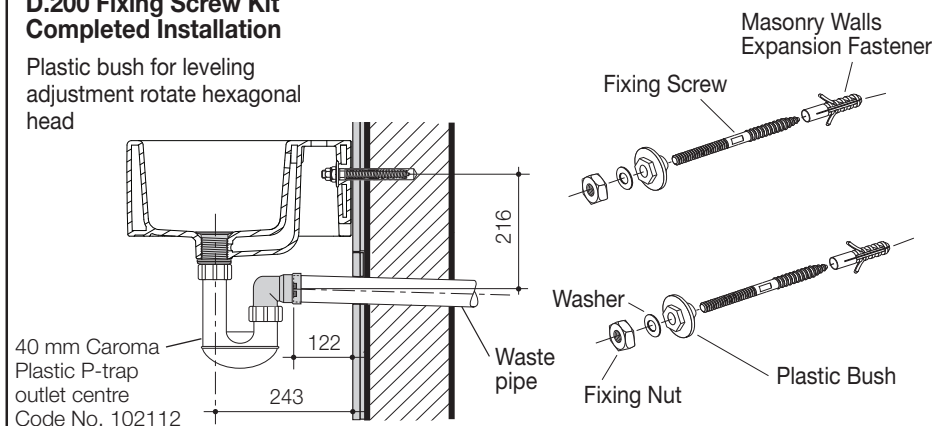

Fig. 3
- 5- Locate basin onto the Fixing Screws on the wall. Insert plastic bushes, metal washers and fasten to wall with fixing nut. To complete assembly as detailed in **Figure 3**.
- 6- The Plastic Bush allows for leveling adjustment if required by rotating the hexagonal head bush, the basin will be slightly raised or lowered as shown in **Figure 3**.